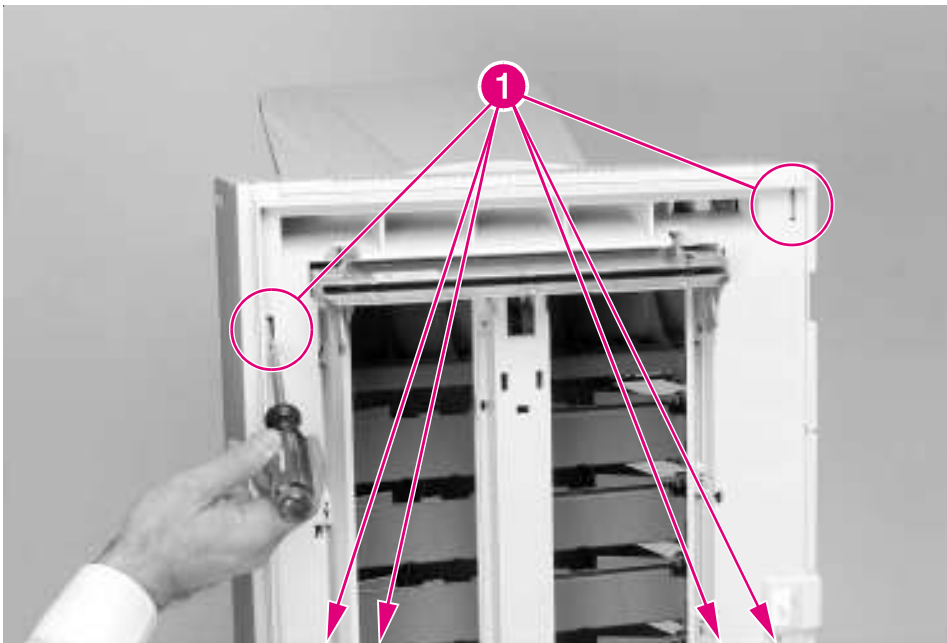
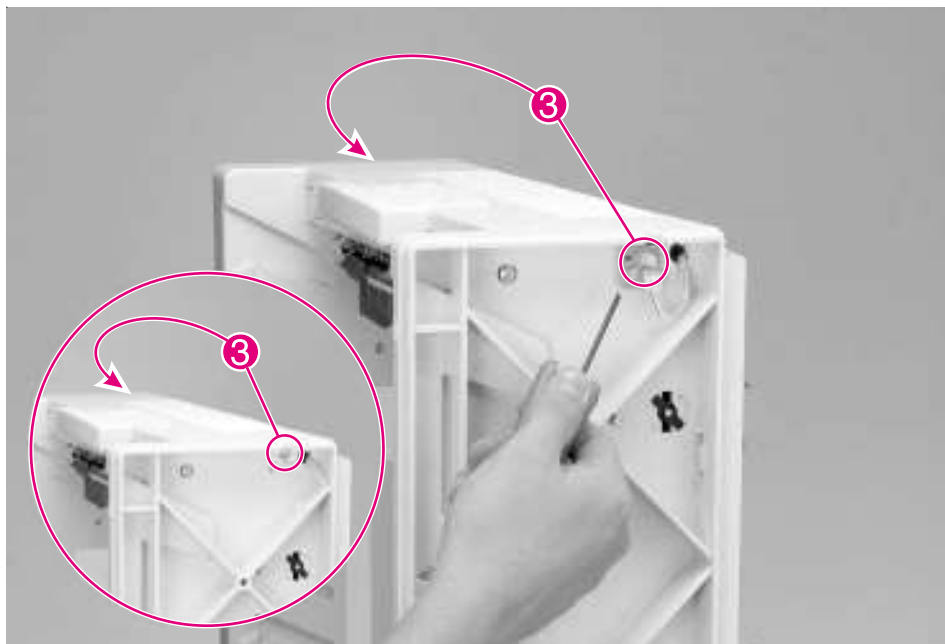

Figure 6-152 8-bin Mailbox Covers (Front and Back)
Figure 6-153 8-bin Mailbox Top Cover
- 1 Remove the Front and Back Covers from the 8-bin Mailbox (see Figure 6-152).
- 2 Remove the Front, Back, and Top Covers from the 8-bin Mailbox (see Figure 6-152 and Figure 6-153).
- 1 Remove the Back Cover from the 8-bin Mailbox (see Figure 6-152).